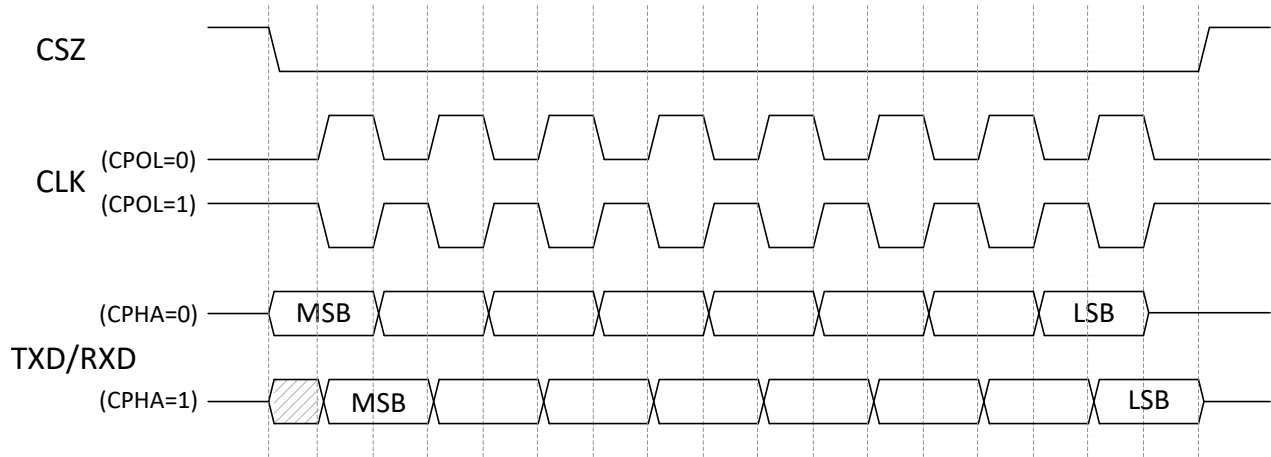

图 6-15. Timing Diagram for SPI Clocking Modes
- (1) The DLPC6540 SPI interfaces support SPI Modes 0, 1, 2, and 3 (that is, both clock polarities and both clock phases) as shown in 表 6-2 and 图 6-15. As such, each SPI interface configuration must be setup to match the SPI mode being used.
- (2) In most SPI applications, one clock edge is used by both master and slave devices for transmitting data while the other edge is used by both for sampling received data. This is referred to as *Standard SPI Protocol*. To maximize the SPI\_CLK frequency potential, SPI masters can alternatively be designed to sample the data in (MISO) bit on the same clock edge used to transmit the next data out (MOSI) bit. This is referred to as *Enhanced SPI Protocol*. The DLPC6540 SPI master implementation supports both protocols (part of